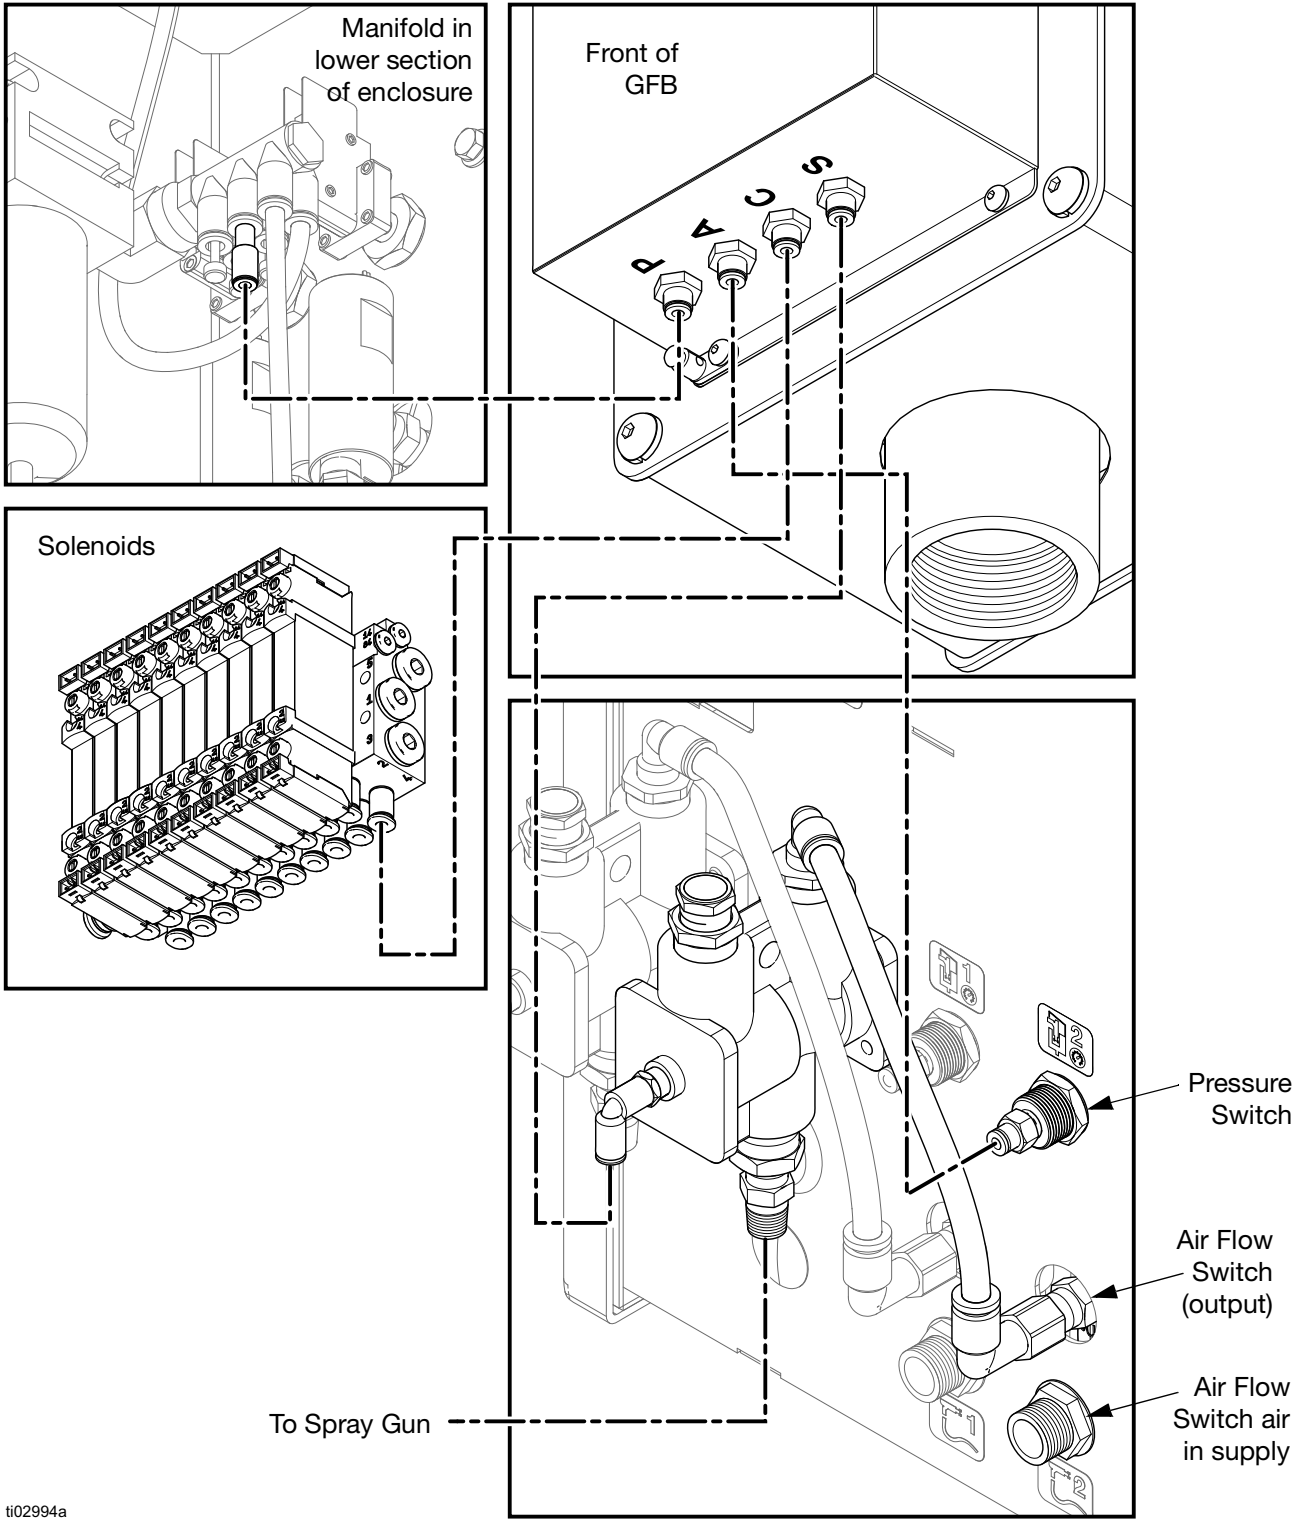

FIG. 31: GFB Solenoid, Air Manifold, Pressure Switch, and Air Flow Switch Connections (ProMix V shown)
1. From the **P** fitting to the main air manifold (FIG. 31). Use a clean, dry air supply (filtered to 10 microns).
2. From the **A** fitting to the pressure switch air input (PS, FIG. 31).
3. From the **C** fitting to the solenoid (FIG. 31). Note the positions for gun flush box 1 and gun flush box 2.